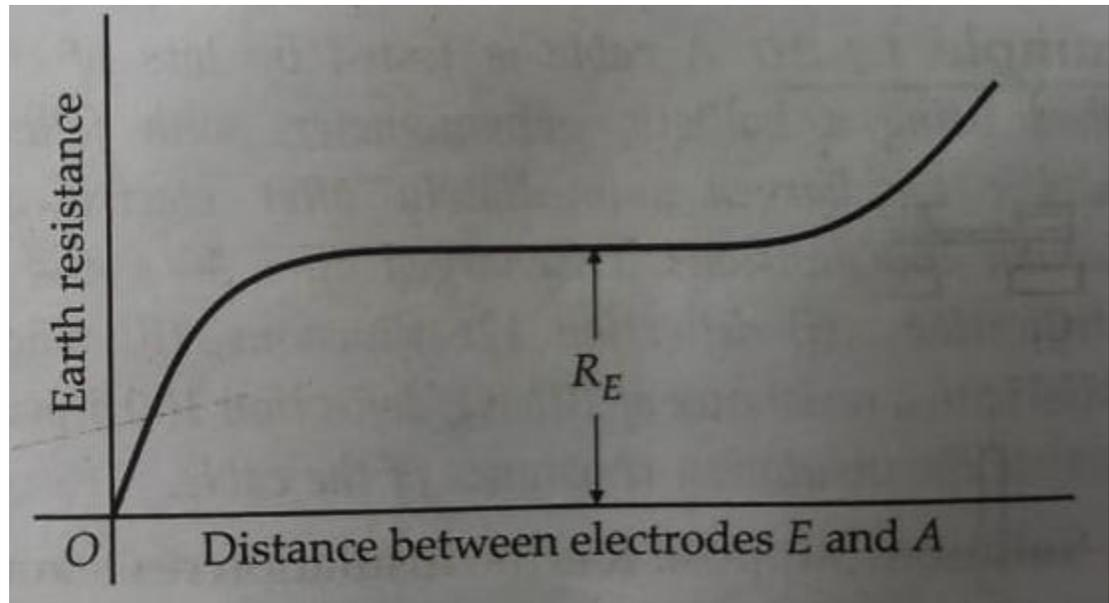

Fig. No. 4 Variation of earth resistance with distance between electrode E and A.
- A graph is plotted between earth resistance against the distance between E and A as shown in Fig. No. 4.
- From Fig. No. 4 it is clear that the measured value of earth resistance depends upon the position of the auxiliary electrode A.